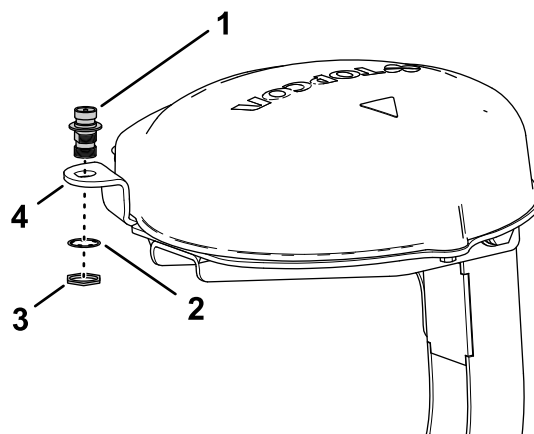

Figure 156
- Align the coaxial coupler through the opening in RTK-antenna flange with the bulkhead threads of the coupler down (Figure 156).
- Assemble the coaxial coupler to the flange of the receiver plate with the lock washer and jam nut, and tighten the jam nut by hand (Figure 156).